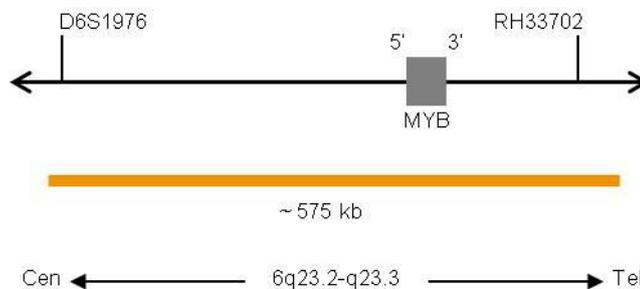

Fig. 1: SPEC MYB Probe map (not to scale)
- ZyOrange (excitation 547 nm/emission at 572 nm) labeled polynucleotides (~4.5 ng/μl), which target sequences mapping in 6q23.2-q23.3* (chr6:135,141,227-135,715,246) covering the MYB gene (see Fig. 1).